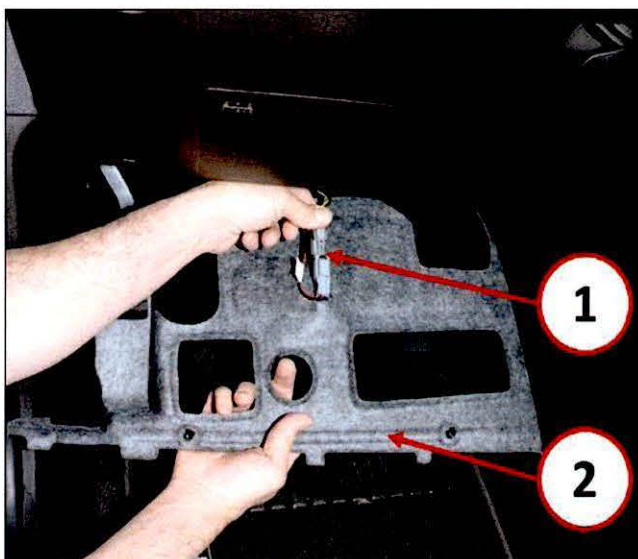

Fig. 3 Instrument Panel Closeout Removal
3. Disconnect the courtesy lamp electrical harness (1) from the driver side instrument panel closeout (2) (Fig. 3).
4. Remove the driver side instrument panel closeout (2) from the vehicle (Fig. 3).
7. Connect the courtesy lamp electrical harness (1) to the driver side instrument panel closeout (2) (Fig. 3).